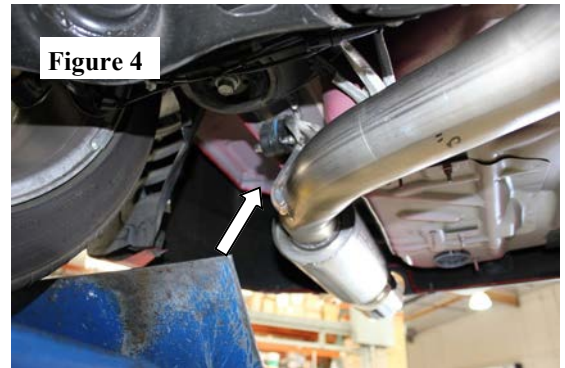

Figure 4
1. Place a clamp over the expanded end of R/H Muffler Assembly and insert pipe into newly cut pipe. Install the hangers into the rubber isolators. (See Fig. 4) Do Not tighten the clamp.